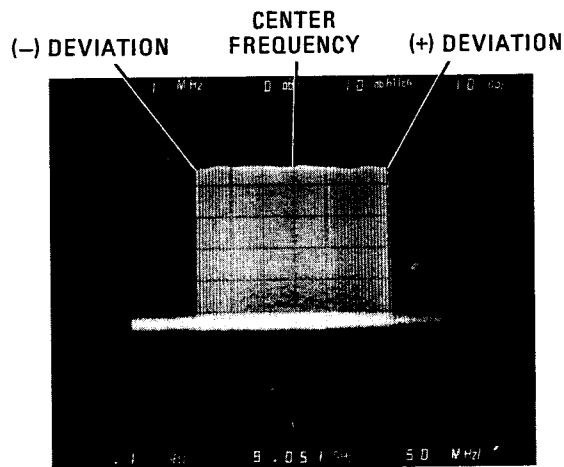

Figure 4-19. Typical Spectrum Analyzer Display of 100 Hz Frequency Deviation
- e. Note point at which deviation becomes non-linear (i.e., + deviation does not equal - deviation). (See Figure 4-19.) Deviation at this point should be at least ± 75 MHz.
- e. Note point at which deviation becomes non-linear (i.e., + deviation does not equal - deviation). (See Figure 4-19.) Deviation at this point should be at least ± 150 MHz.